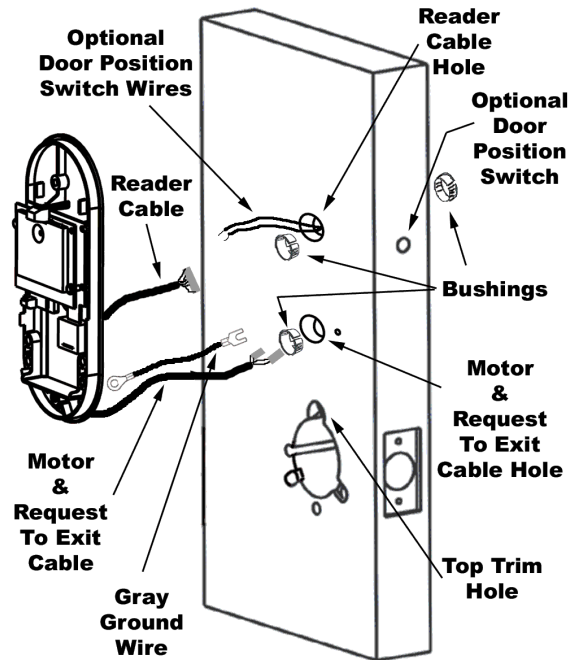

Figure 2-25 – Routing Transceiver Wires and Cables
- 2.9.1 Before mounting the Transceiver, the Reader Cable, Motor & Request to Exit Cable, the optional Door Position Switch Wires, and Gray Ground Wire (ring terminal toward the Transceiver) must be routed into their appropriate locations (Figure 2-25).
- 2.9.1.3 If installing on a metal door, install plastic Bushings in the Motor Cable hole and on Reader Cable Hole both the Transceiver and Reader Side, three bushings total (Figure 2-25).